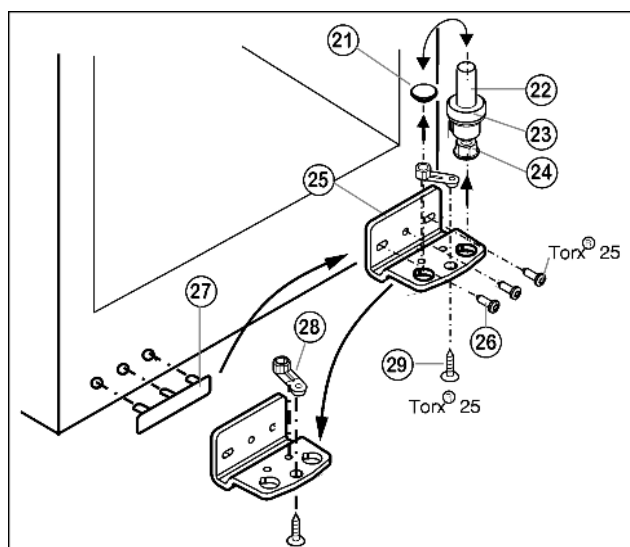

Fig. 5
- ▶ Lift out the bearing pin Fig. 5 (22) together with washer Fig. 5 (23) and adjustable-height foot Fig. 5 (24).
- ▶ Lift off the stopper Fig. 5 (21).
- ▶ Unscrew Fig. 5 (26) the turn hinge Fig. 5 (25).
- Unscrew *Fig. 5 (29)* the bearing element *Fig. 5 (28)*, transfer it to the opposite location hole of the turn hinge and screw it firmly into place.
- Carefully lift off the cover on the handle side *Fig. 5 (27)* and transfer it to the opposite side.
- Screw the turn hinge *Fig. 5 (25)* firmly into place on the new hinge side, possibly using a cordless screwdriver (**with 4 Nm**).
- Re-insert the stopper *Fig. 5 (21)* into the other hole.
- Re-insert the bearing pin *Fig. 5 (22)* together with the washer and adjustable-height foot. In so doing, pay attention that the locating lug points backwards
- Place the door from above onto the lower bearing pin *Fig. 5 (22)*.
- Align the door to the appliance housing by way of the two oblong holes in the bottom turn hinge *Fig. 5 (25)*. To do so, unscrew the middle screw.